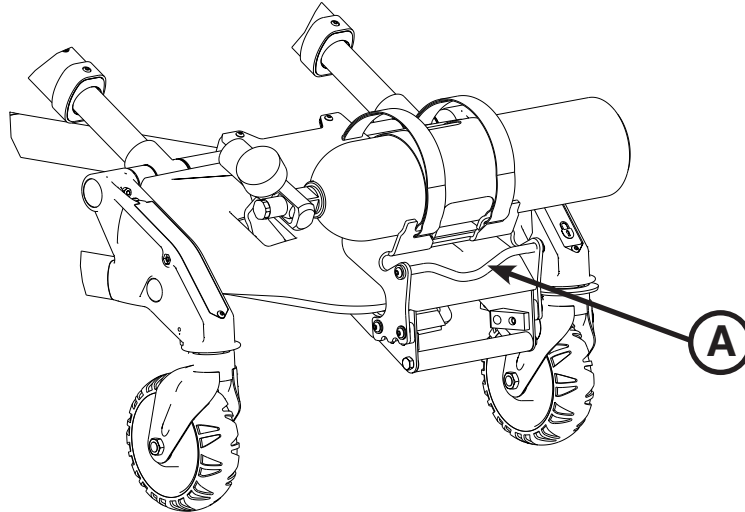

Figure 14: Winch Attachment Rod
To load and unload the cot with the optional oxygen bottle holder, attach the winch cable to the winch attachment rod (A) as shown in Figure 14.